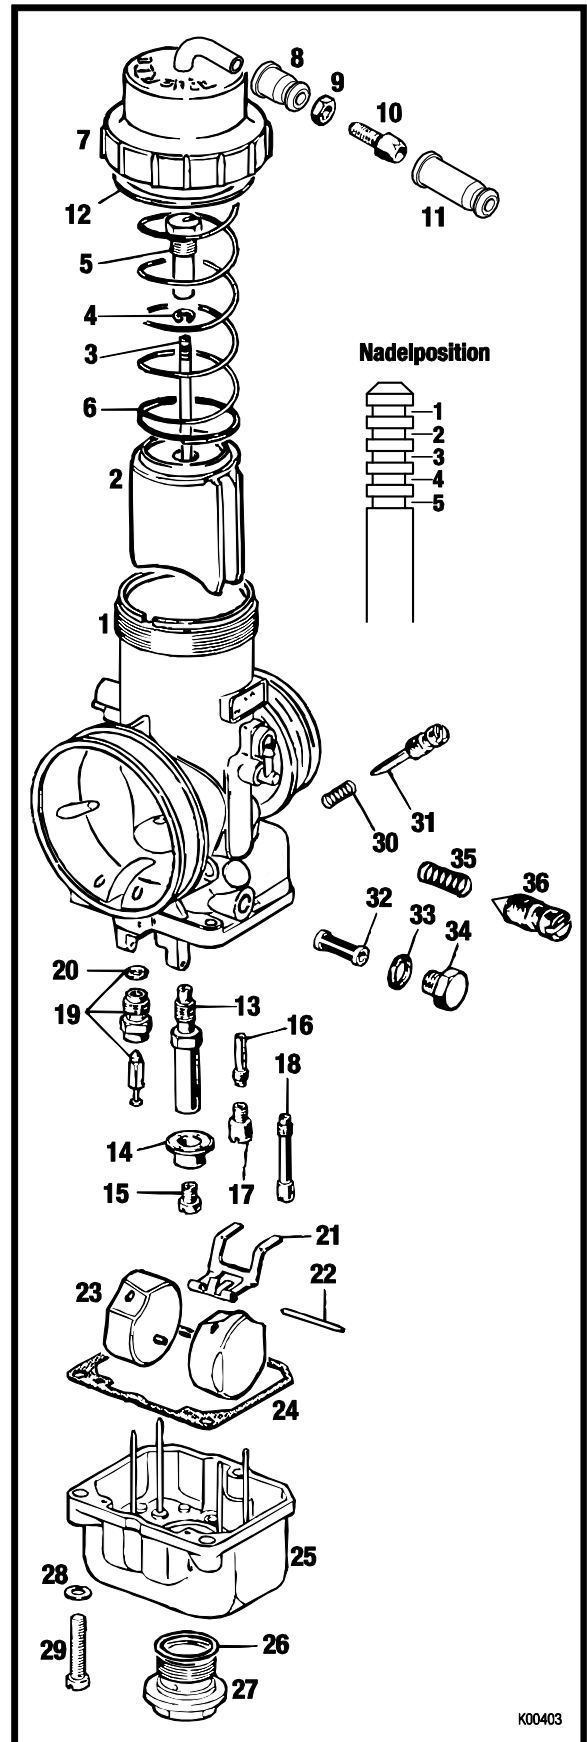

Fig. 2
➔ Install the main jet cup (pos. 14) in position as described in figure 2 and fit the corresponding main jet (see Rotax Max Jetting Guide)